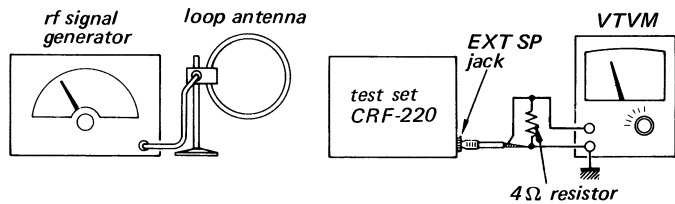

Fig. 3-2 A-m i-f alignment setup
- Rf Signal Generator Coupling: Loop antenna (See Fig. 3-2)